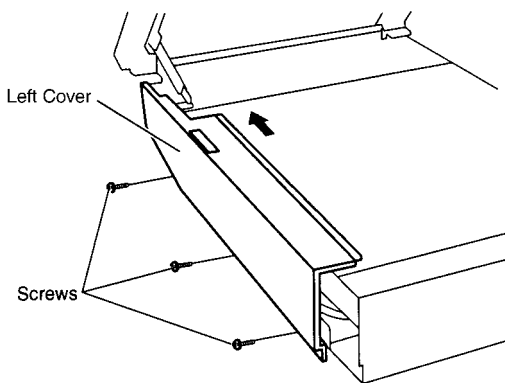

Fig. 4-3
- 3) Slide Left Cover toward the back, as shown in Fig 4-3.